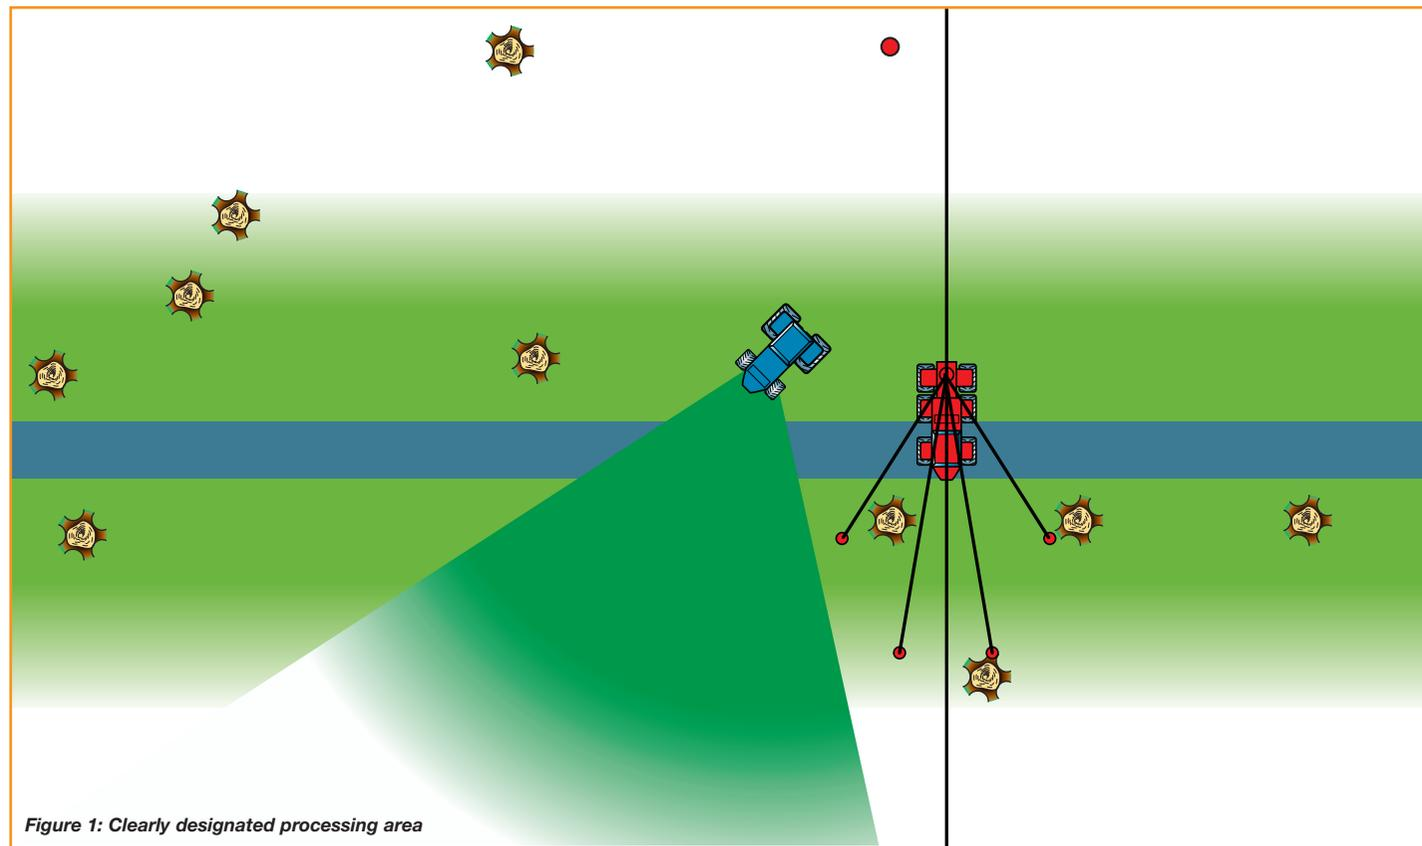

Figure 1: Clearly designated processing area
- ❑ 7 The operation must be planned to ensure all processing is carried out in a direction away from operators and machinery. A clearly designated processing area should be identified (see Figure 1).